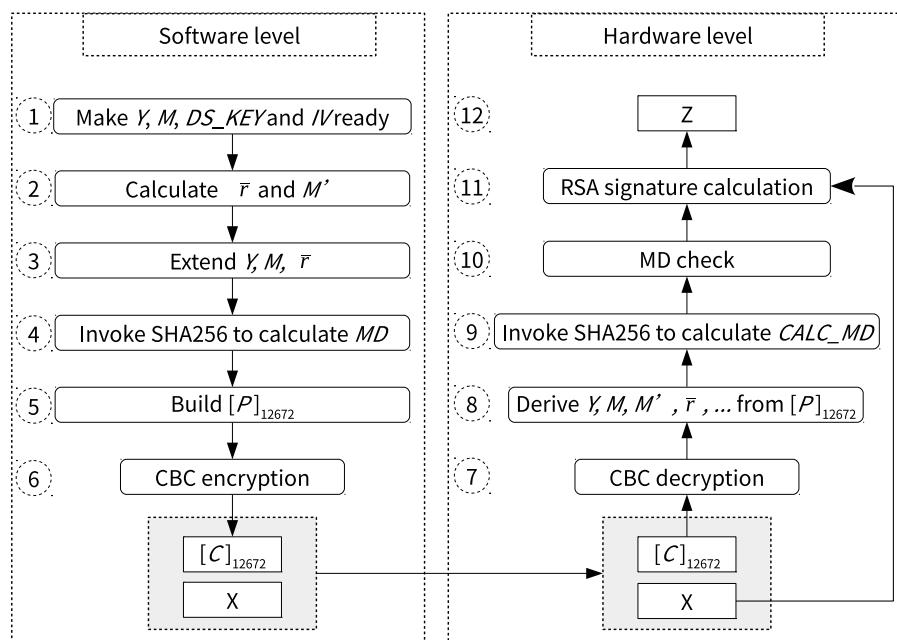

Figure 22-1. Software Preparations and Hardware Working Process
The left side of Figure 22-1 lists preparations required by the software before the hardware starts RSA signature calculation, while the right side lists the hardware workflow during the entire calculation procedure.
1. The software preparation (left side in the Figure 22-1) is a one-time operation before any signature is calculated, while the hardware calculation (right side in the Figure 1-1) repeats for every signature calculation.
Users need to follow the steps shown in the left part of Figure 22-1 to calculate C . Detailed instructions are as follows:
1. Decryption: Step 7 and 8 in Figure 22-1
The decryption process is the inverse of Step 6 in figure 22-1. The DS peripheral will call AES accelerator to decrypt C in CBC block mode and get the resulted plaintext. The decryption process can be represented by $P = AES\text{-}CBC\text{-}DEC(C, DS_KEY, IV)$, where IV (i.e., $[IV]_{128}$) is defined by users. $[DS_KEY]_{256}$ is provided by HMAC module, derived from $HMAC_KEY$ stored in eFuse. $[DS_KEY]_{256}$, as well as $[HMAC_KEY]_{256}$ are not readable by users.
2. Check: Step 9 and 10 in Figure 22-1
The DS peripheral will perform two checks: MD check and padding check. Padding check is not shown in Figure 22-1, as it happens at the same time with MD check.
3. Calculation: Step 11 and 12 in Figure 22-1